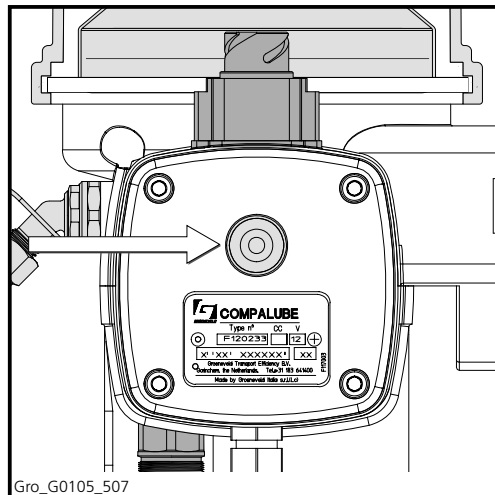

Figure 5.8 Test button
2. Press the test button on the right-hand side of the pump unit for a minimum of three seconds but not longer than five seconds, until you hear that the pump motor is switched on (Figure 5.8).